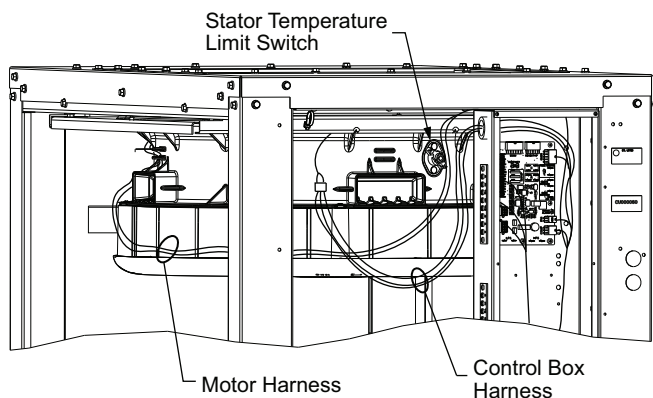

Fig. 25 — Locations of Motor Harness and Stator Temperature Limit Switch
1. Unplug motor harness from control box harness. See Fig. 25.
2. Unplug connectors from stator temperature limit switch. See Fig. 25.
- Unplug motor harness from control box harness. See Fig. 25.
- Unplug connectors from stator temperature limit switch. See Fig. 25.